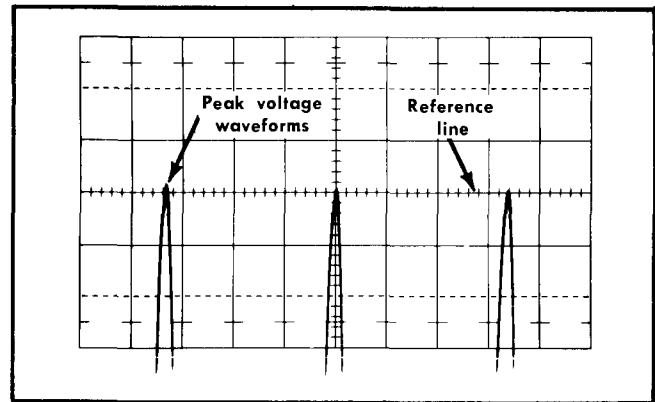

Fig. 5-5. Illustrating method of peak line voltage measurement; Type W plug-in vertical deflection factor 1 V/cm; sweep rate 5 milliseconds/cm.
n. Adjust the autotransformer output until the tips of the waveforms shown on the test oscilloscope reach the reference line established previously by the Type W. (See Fig. 5-5 for typical display). The test oscilloscope is now indicating 178 peak VAC at the autotransformer output, or 126 volts RMS.